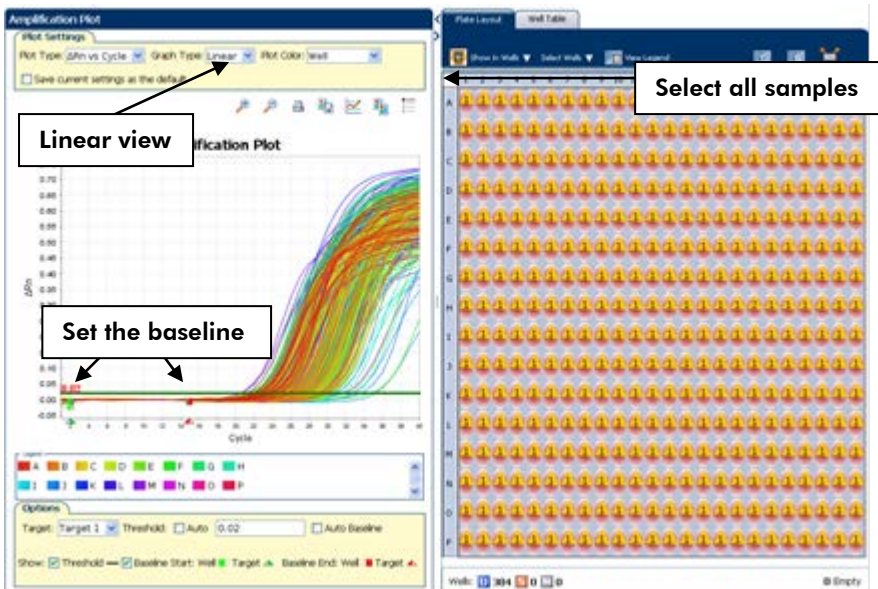

Figure 6. Setting the baseline.
29. If you want to set up the baseline manually and select the best fit threshold for your whole study, follow the procedures below to calculate the threshold cycle (Ct) for each well (See Figures 6 and 7):